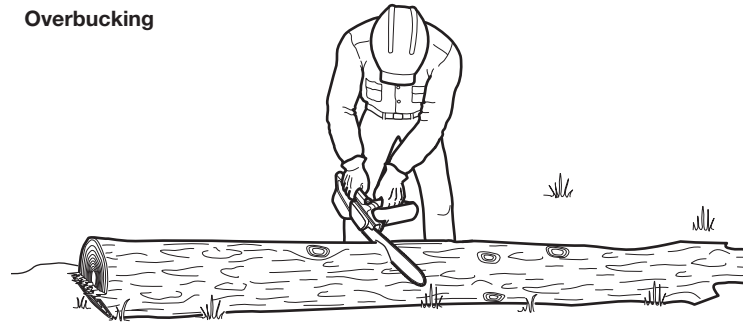

Fig. 21
When logs are supported along the entire length, extra care should be taken to make sure the saw chain does not contact the ground or other support structure (Fig. 21).
1. Begin cutting from above, with the bottom of the saw chain against the top of the log (Fig. 21).